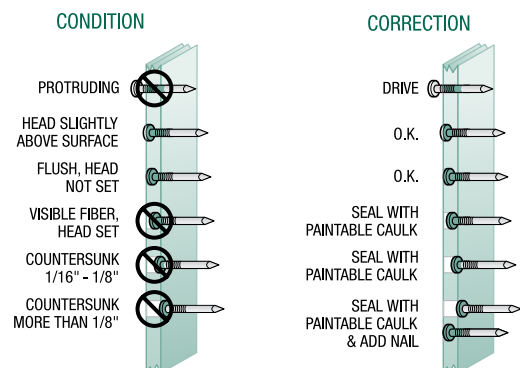

FIG. 1
- Nails must penetrate wood framing 1-1/2". See Fig 1.
- Avoid countersinking nails or rupturing the surface of the siding. If countersink occurs, caulk nail prior to painting. See Fig 1.
- Caulk around all openings such as window and door frames and at butt joints. Caulk all overdriven nails. See Fig 1.